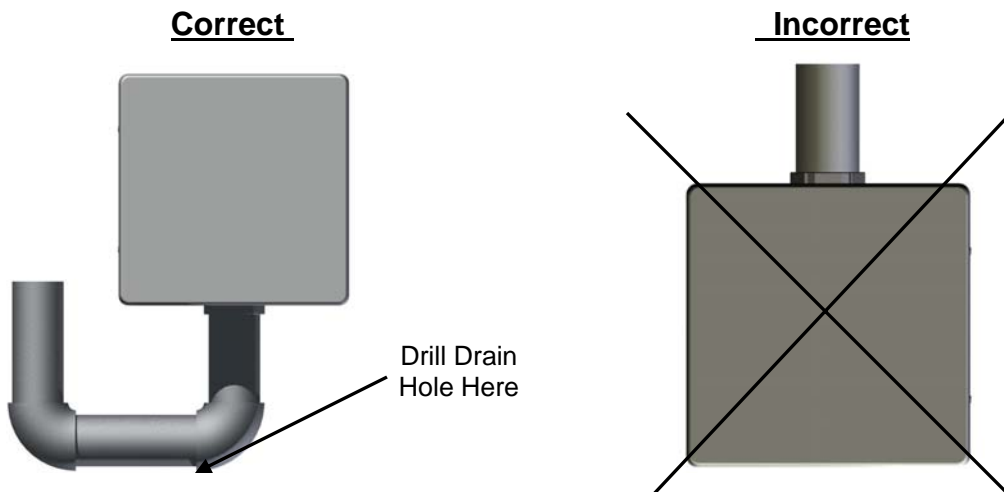

Figure 3. Conduit Entry for Switch Box
2. **Conduit Entry:** If you are running conduit to your switch box, ensure the conduit cable entry enters from the bottom of the enclosure when mounted. (Figure 3)